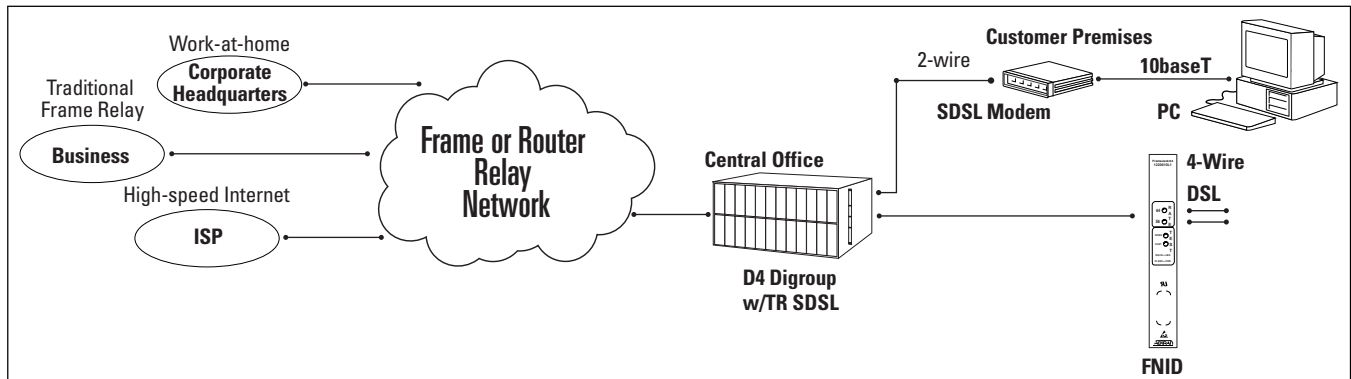

Figure 2. Frame Access DSL Applications
**Figure 2** shows a typical FP TR SDSL implementation. The FP TR SDSL delivers data to the end user unit at rates of 160, 256, 384, 512, and 768 kbps. The SDSL modem (P/N 1200461L1) provides a 10Base T interface to the customer Network Interface Card (NIC) or LAN hub device.